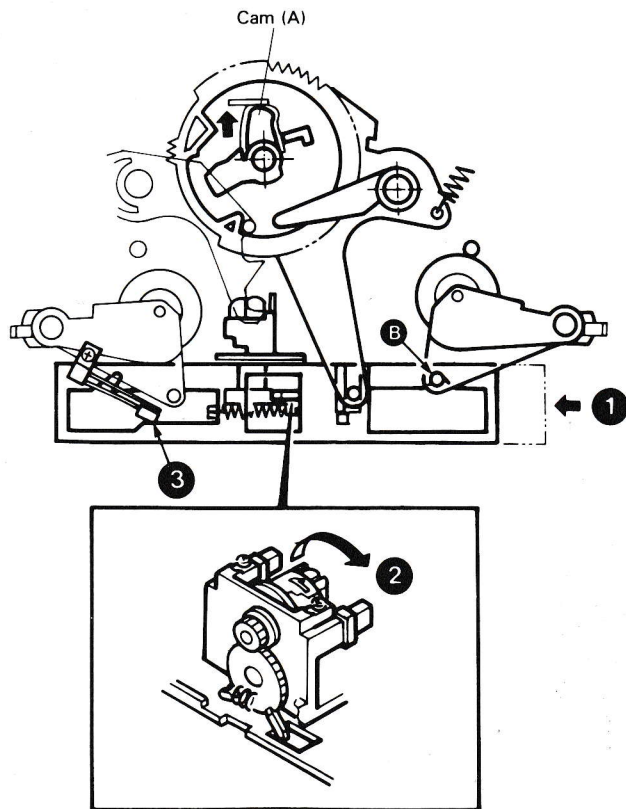

Fig. 3 Status of reverse play
2-2 Reverse play (RVS PLAY) operation (Fig. 3)
By the cam on the rear of the gear, the direction arm rotates to move the direction slider in the RVS direction (arrow 1) (Fig. 3). As the head (sub chassis) rises, the pin of the pinch roller (L) is put into the concave section B of the direction slider so that the pinch roller (L) presses against its corresponding capstan only in the RVS side.